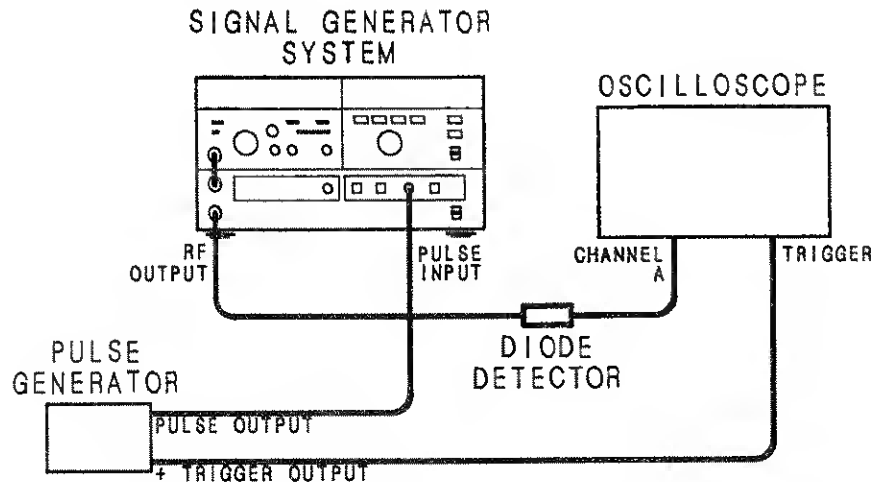

Figure 4-5. Pulse Performance Test Setup
- Connect equipment as shown in Figure 4-5. Press CW/PULSE. Verify that PULSE, , and LOCAL LED's are lit.